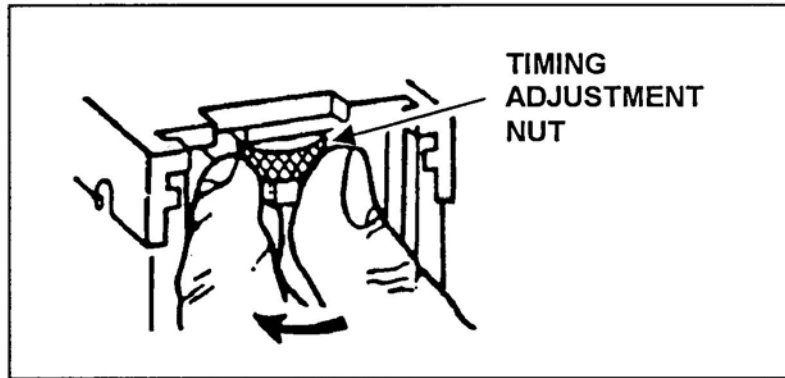

Figure 8. Adjusting Timing
- (4) Move to the side of the gun and remove the backplate.
- (5) Screw the timing adjustment nut all the way down (to the left). The nut should turn hard (Figure 8).